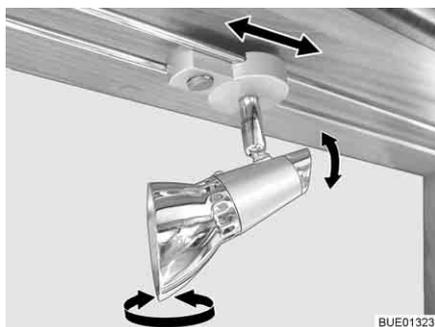

Fig. 53 Spotlight
**Turning:** ■ Grasp the housing (Fig. 53,1) and turn it.
**Shifting:** ■ Grasp the holder (Fig. 53,2).